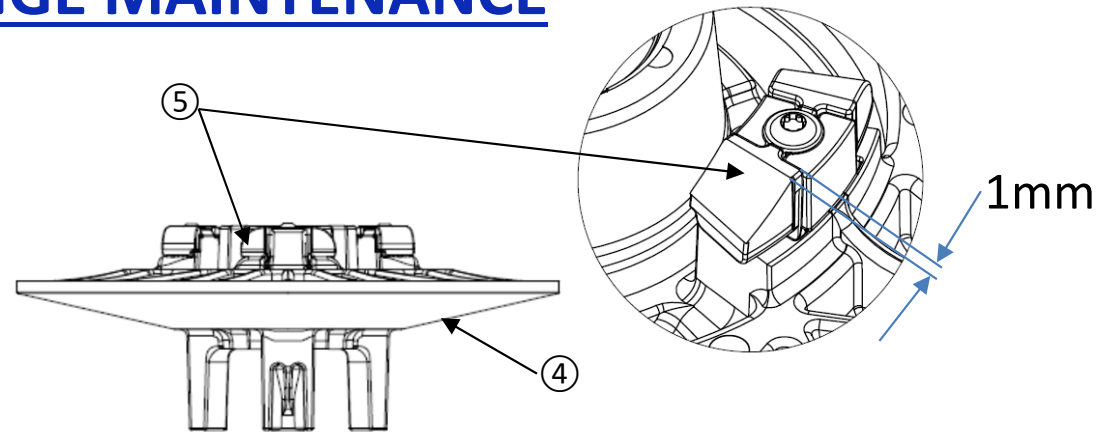

Figure 26
- If the cam shoes ⑤ are worn down to about 1 mm before making contact with the cam shoe support, they must be replaced (figure 26).